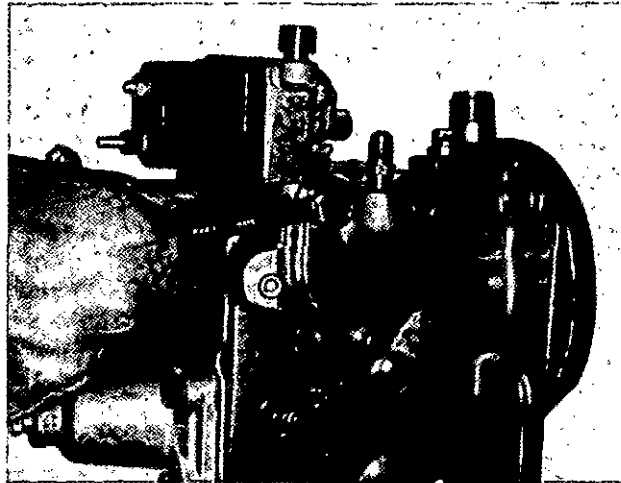

Fig. 1-7, (F5301). Remove the AFC side cover plate.
2. Remove the AFC cover plate, Fig. 1-7.